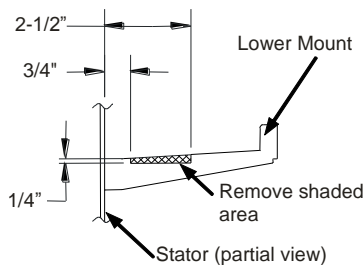

Figure 2.5
- ☐ Modify the lower stator mount by cutting a notch to clear the VR pulley and belt that will be installed later. (Figure 2.5)